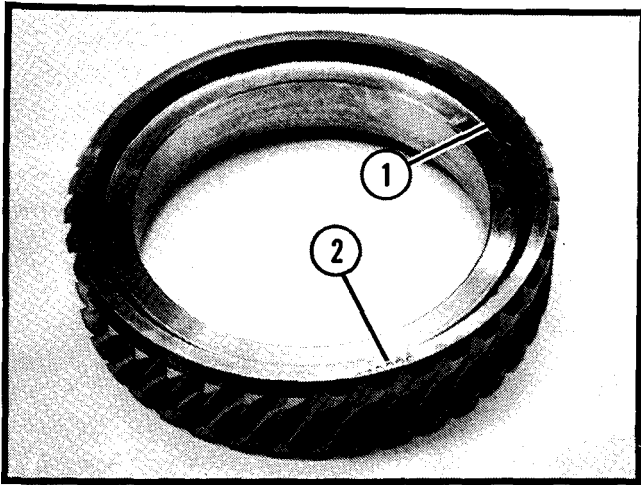

Figure 8.
4. With the differential carrier housing in an upright position, set the heated worm gear onto the differential carrier housing with the chamfered side of the gear down. Numbers stamped on the gear should show. See Figure 8. Ascertain that the worm gear is seated square and even against the carrier flange. Clamp into place and allow to air cool.